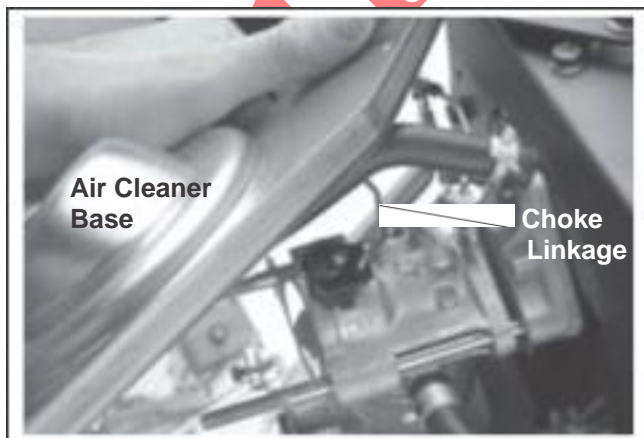

Figure 11-56. Connecting Choke Linkage.
1. Connect choke linkage to the carburetor choke lever. See Figure 11-56.